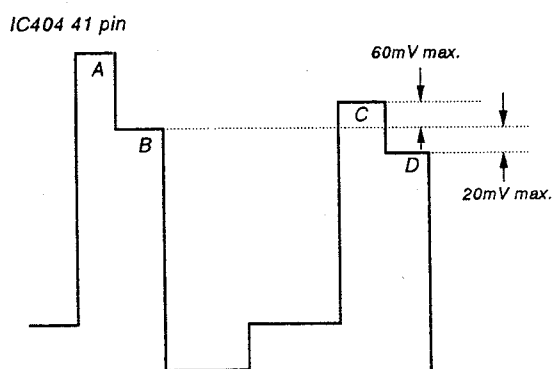

Fig. 17
- 4) Using **R-Y LEVEL NTSC 358**, adjust so that the tops of the waveform line up as in the diagram below. (Fig. 17)
- 4) Adjust **R-Y LEVEL NTSC 443** in the same manner as 6-4). (Fig. 17)